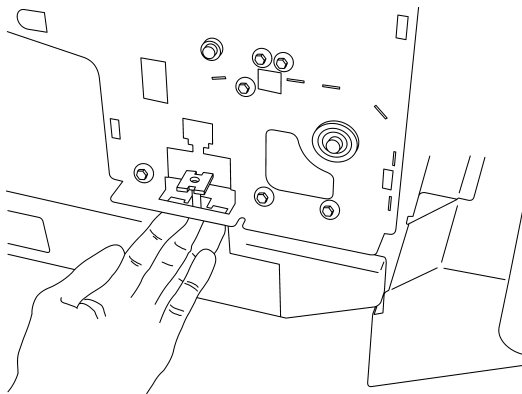

Figure 4, view of lifting the Cover Feeder and installing the Front Installation Bracket.
9. Lift the Cover Feeder on the front side, and install the Front Installation Bracket in the Cutout on the Cover Feeder frame, according to figure 4.